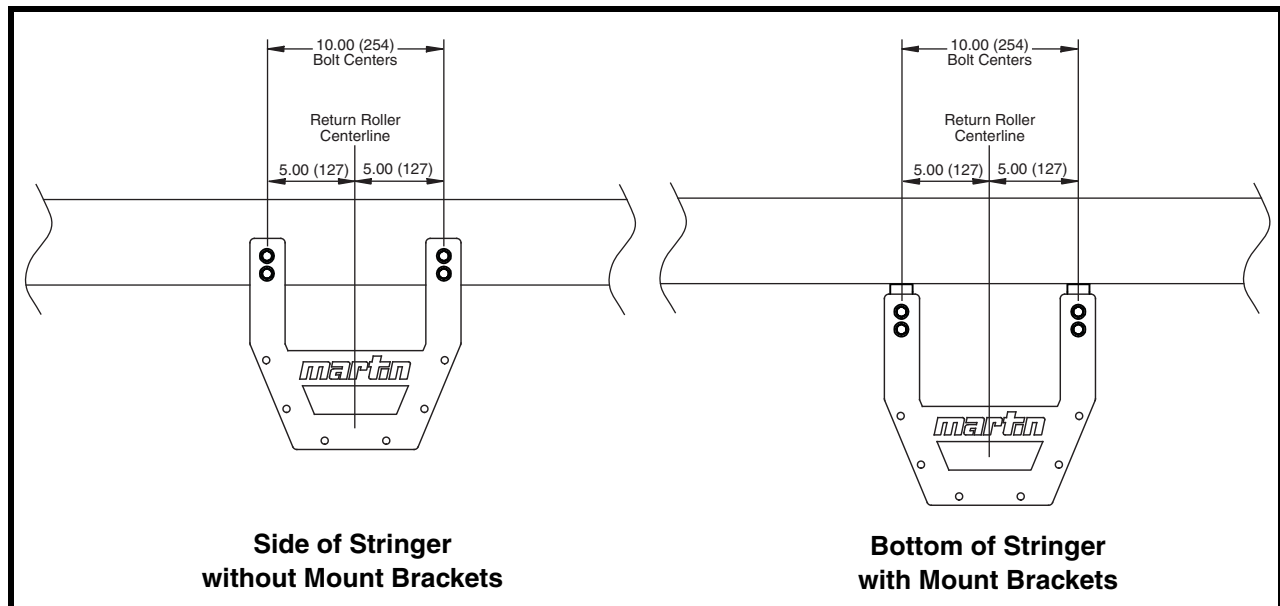

Figure 1. Martin® Return Roller Basket Mounting Location
1. Align return roller basket (A) with previously marked locations, see Figure 1.
3. Drill or cut holes in stringer (B). Remove burrs and sharp edges.
4. Install return roller basket to stringer using cap screws, washers, and nuts (C).
1. Install mounting brackets (A) on return roller basket (B) using cap screws, washers and lock nuts (C).
2. Align mount brackets with previously marked locations, see Figure 1.
4. Drill or cut holes in stringer (D). Remove burrs and sharp edges.
5. Install return roller basket with brackets to stringer using cap screws, washers, and nuts (E).